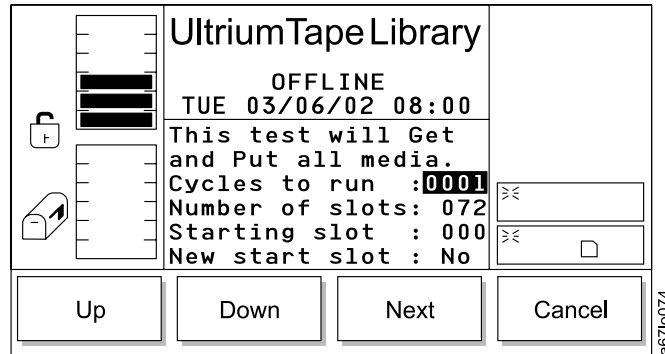

Figure 168. Get/Put Dialog
- If **Get/Put** is selected, the Get/Put Dialog displays (see Figure 168 on page 137).